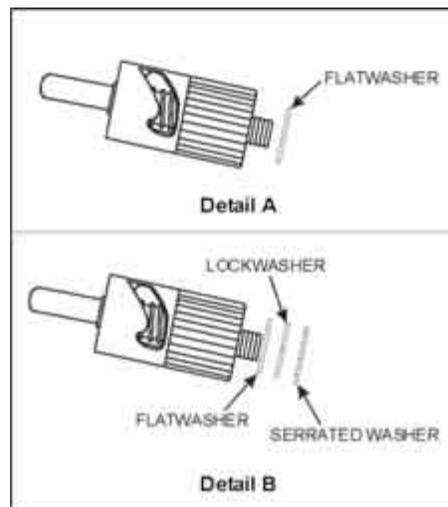

Figure 22. Washer Installation for Connectors P-2052A-C and P-2052A-Z
3. FOR LOCKING VERSIONS, INSTALL WASHER(S) For P2052A-C connectors, place one flat washer on the barrel as shown in Detail A (Figure 22). For P2052A-Z connectors (QPL product), install the flatwasher, lockwasher, and the serrated washer, in that order, as shown in Detail B (Figure 22). The serrations on the serrated washer should face away from the connector body.